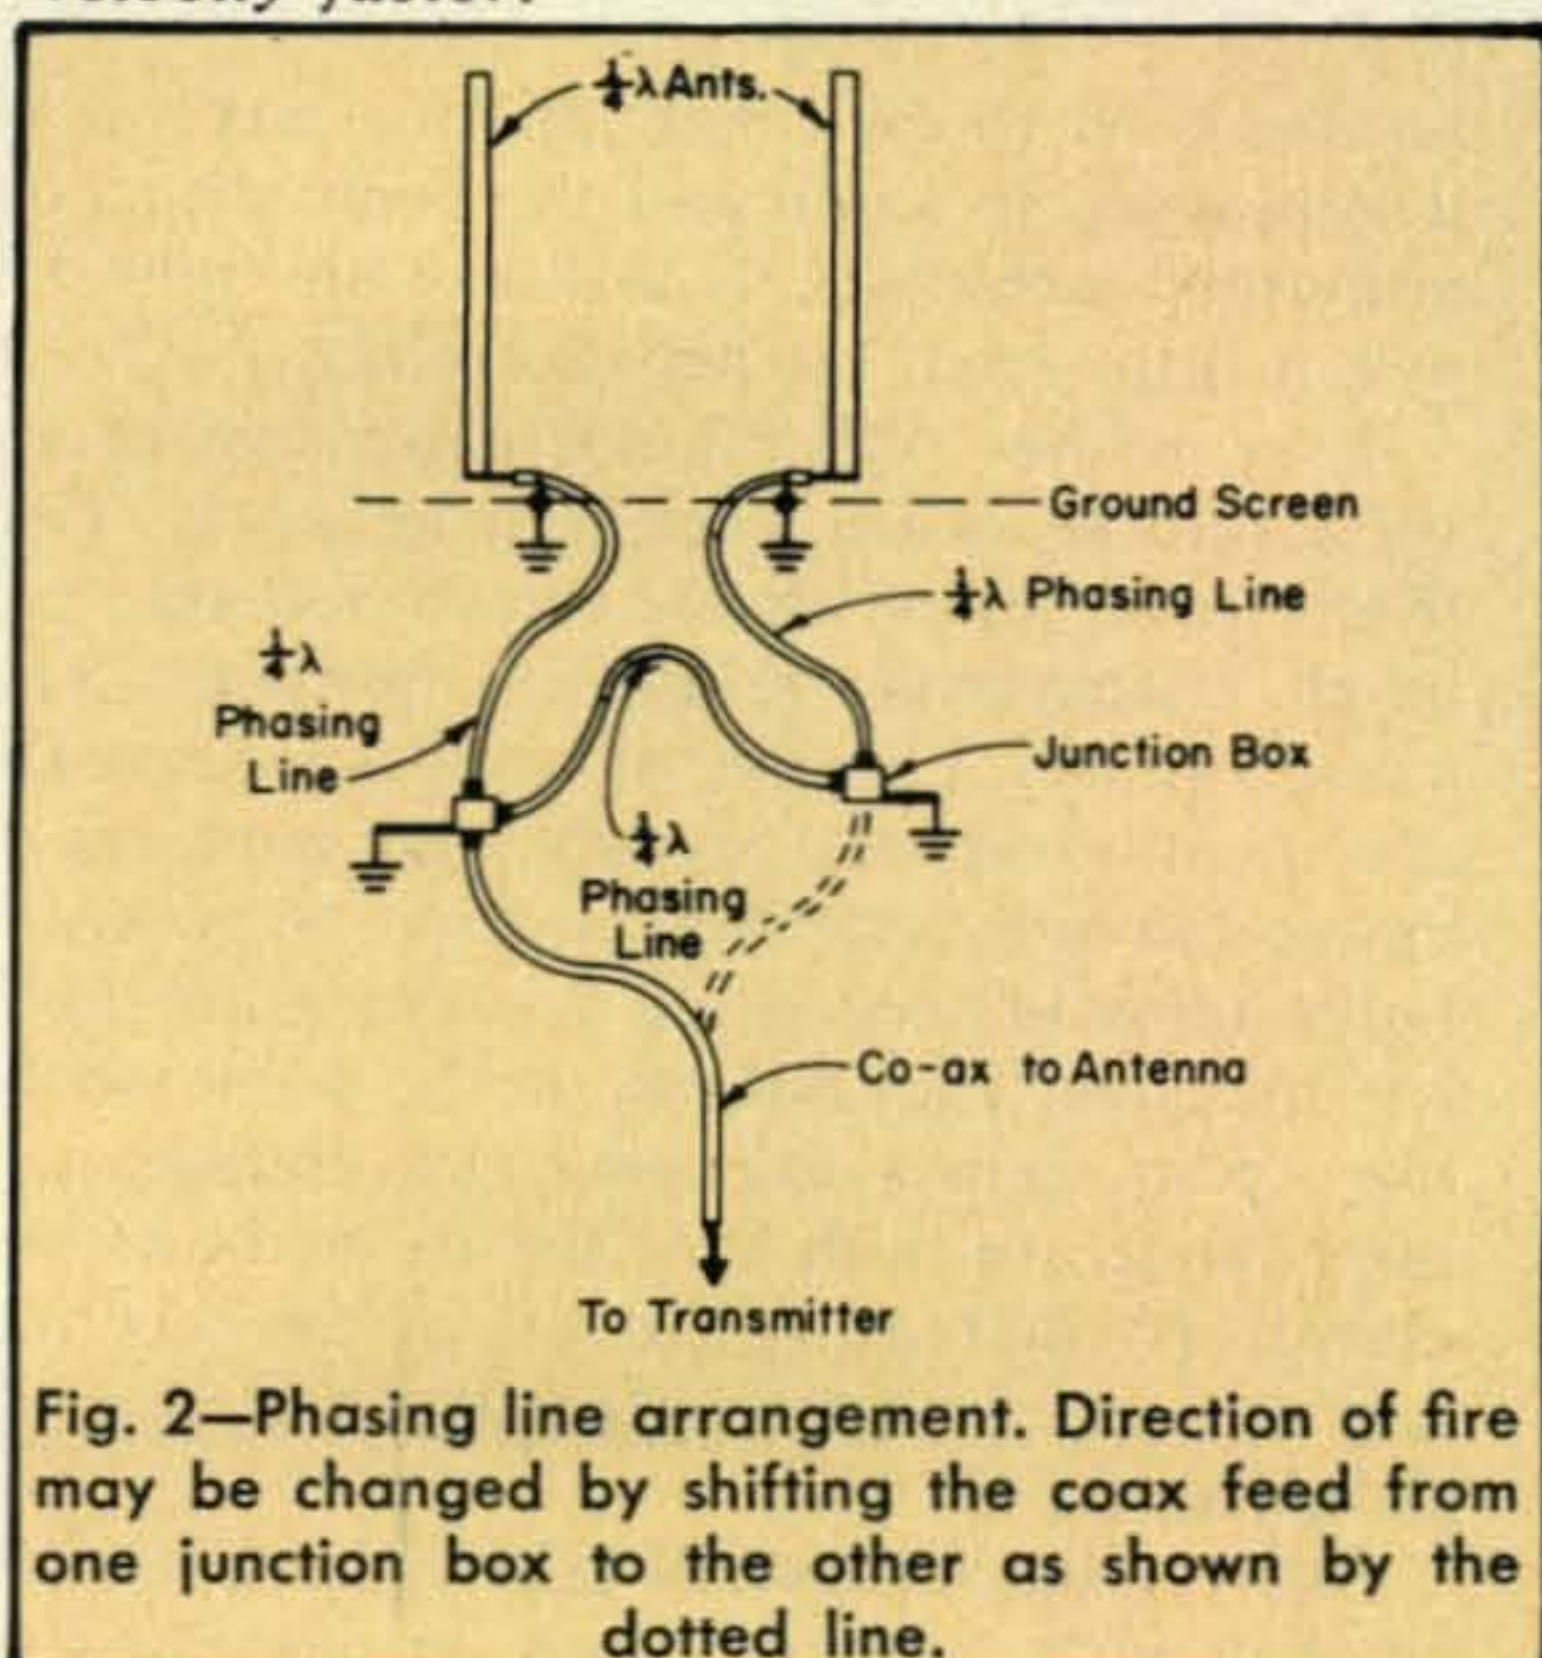

Fig. 2—Phasing line arrangement. Direction of fire may be changed by shifting the coax feed from one junction box to the other as shown by the dotted line.
The two radiators are fed with coaxial cable as in fig. 2. Three pieces of coax are needed each  $\lambda/4$  long. The length of each  $\lambda/4$  piece is equal to  $[246/f_{mc}] \times cable\ velocity\ factor$ .
Fig. 3(A)—Details of the junction boxes of fig. 2 used for manual switching. (B) Interior of junction box containing a relay for remote switching. All junction boxes must be watertight and the connectors weatherproof.
Two junction boxes are shown in fig. 2; detail of the junction boxes is given in fig. 3. The boxes need to be sturdy, weather-tight and to be provided with a heavy grounding lead. The plugs and sockets used to connect the cables should be weatherproof.
between Class A and Class B. Approximately minus 50 volts of grid bias are required to operate the tubes in  $AB_1$  with 1800 volts on the plate and 300 volts on the screen. Since the control grid does not draw grid current the bias supply does not have to be capable of supplying power. It can be as physically small as possible supplying power only to its own bleeder resistor,  $R_3$  and  $R_4$ , (in fig. 1) which is practically negligible. The grid bias can therefore be obtained by tapping off one side of the screen voltage power supply transformer. This method is suggested in fig. 2. Control  $R_4$ , in fig. 1, is then used to vary the
Fig. 2—Circuit of a power supply adequate for the 10-40 meter table top using external anode tubes. The diodes are 750 ma 1 kv p.i.v. types each paralleled by a 100K ½ watt resistor and a 0.005 1 kv disc ceramic. The filter consists of five 100 mf, 450 volt units in series with ½ megohm resistors in parallel.